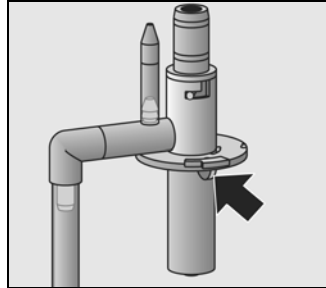
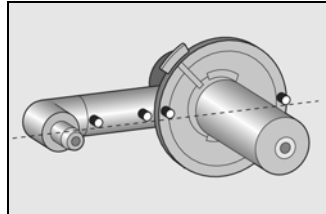

Figure 3-17: Reassembling the Froth Dispenser
Figure 3-18: Alignment Marks on Froth Dispenser
5. Reassemble the parts as shown in Figure 3-17. Take care that the raised parts (see arrow, Figure 3-17) point downwards and that the marks are lined up (see Figure 3-18).